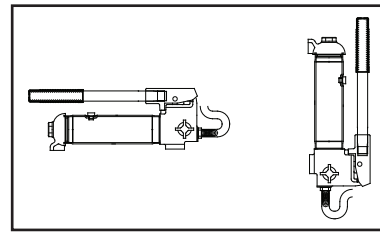

Figure 2 - Horizontal and Vertical position
1. Pump may be used in horizontal and vertical position as illustrated on figure 2 below.